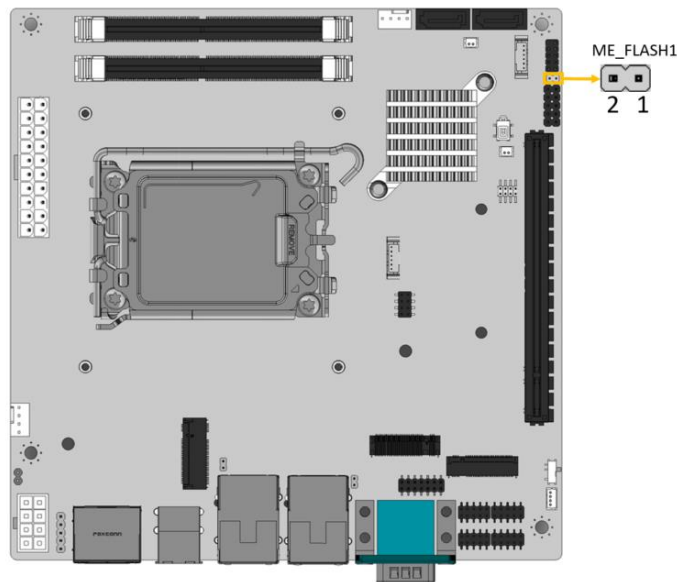

Figure 3-25: Flash descriptor jumper Location
- CN Location:** See **Figure 3-25**